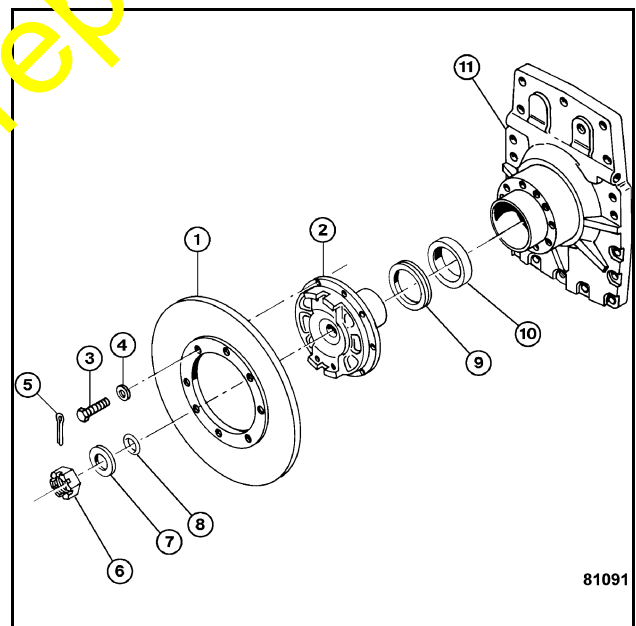

Figure 3
5. Remove parking brake disk (1, Figure 3) from differential input yoke (2) by removing eight bolts (3) and washers (4).
6. Remove yoke (2) from differential by removing cotter pin (5), castle nut (6), special washer (7), and o-ring (8).
7. Remove v-seal (9) from yoke (2) and seal (10) from differential case cover (11).